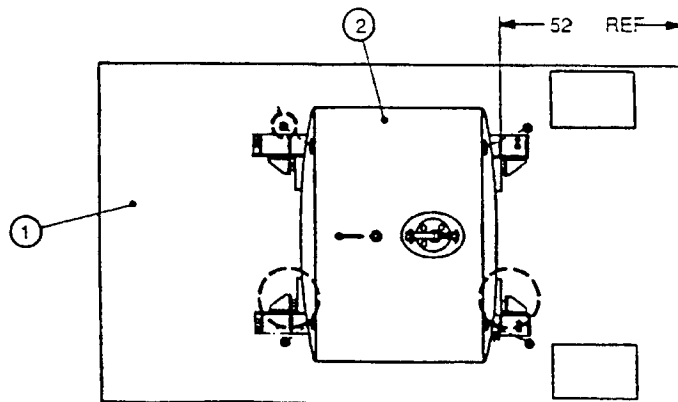
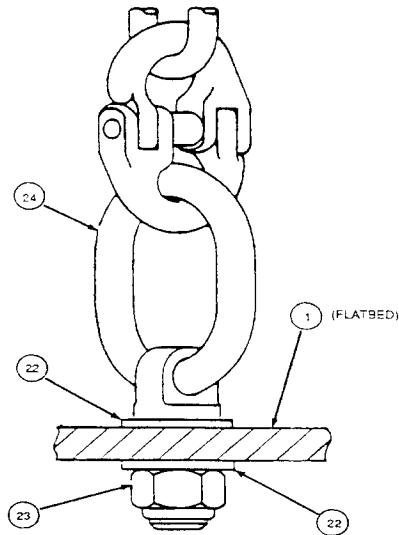

Figure 4-6 Tank Placement and Tie-down Locations.
Figure 4-8 Tiedown Assembly Attachment.
(e) Orient and position tank (2) on flatbed and move mounting angles inboard so the angles are flush against the sides of the tank skids. Keeping mounting angle parallel to trailer edge, as much as possible, retighten its hardware. Align tank snugly against the secured angle, moving the other mounting angle with it. See Figure 4-6.
(5) Tie-Down Assembly Attachment Installation.
(a) With tank mounted, install tie-down assemblies (24, Figure 4-8) at locations shown in Figure 4-6, using two washers (22) and one nut (23). Apply 325-327 ft. lbs. of torque to nuts to secure tie-downs.